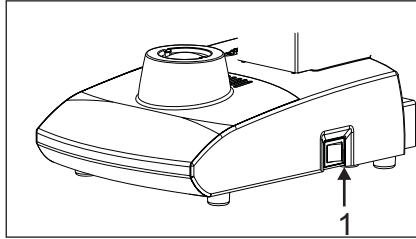

Fig. 14
1. Flip the main switch to "I" (ON) as shown in figure 14.